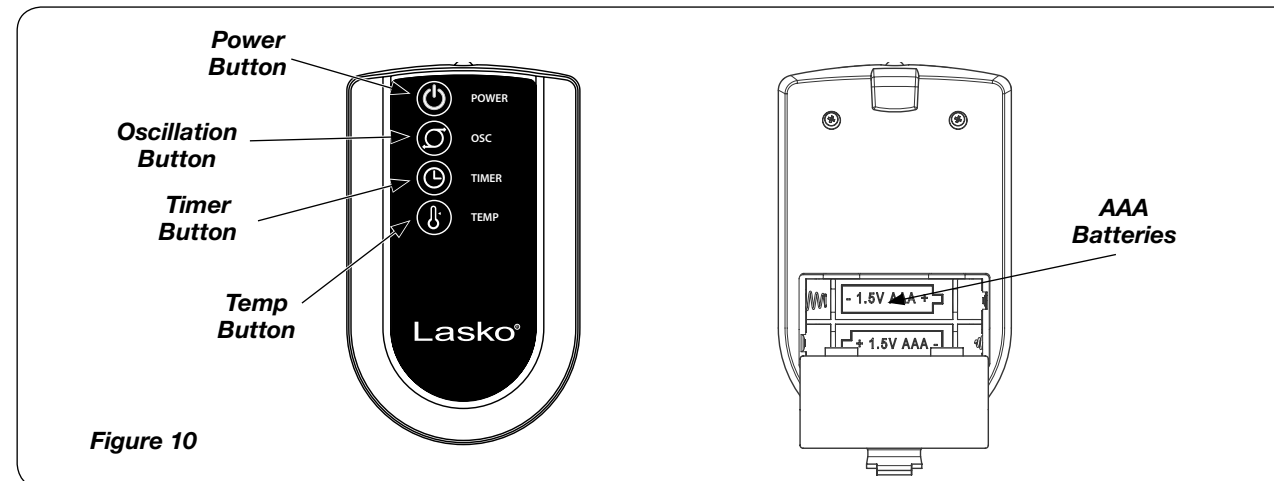

Figure 10
This Fan may be operated by the Controls located on front of the unit (as shown in **Figure 9**) or by the Remote Control (shown in **Figure 10**).
1. Install batteries as shown in Figure 10. The battery is type “AAA” included.